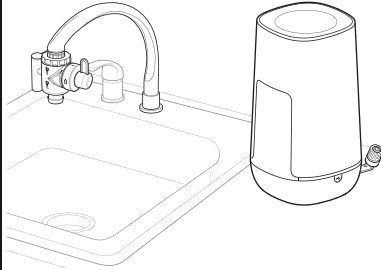

Figure 3.13 – Setting Filtration System Beside Kitchen Sink
1. Set the Tupperware Nano Nature Water Filtration System Gen II next to the kitchen sink (see Figure 3.13). Make sure the unit is set in an upright position, on its base.